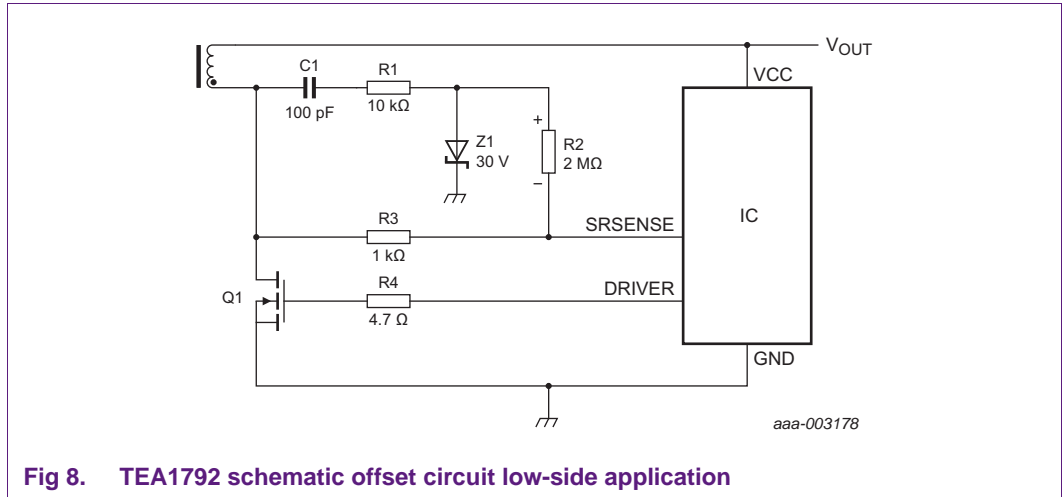

Fig 8. TEA1792 schematic offset circuit low-side application
- Create an offset on the SRSENSE input as shown in Figure 8. The offset also contributes to better performance of low $R_{D\text{Son}}$ MOSFETs.
The schematic shown in Figure 8 is drawn for a low-side application for ease of explanation. However, it is valid for high-side applications as well. The explanation of the circuit is based on the component values used in Figure 8.